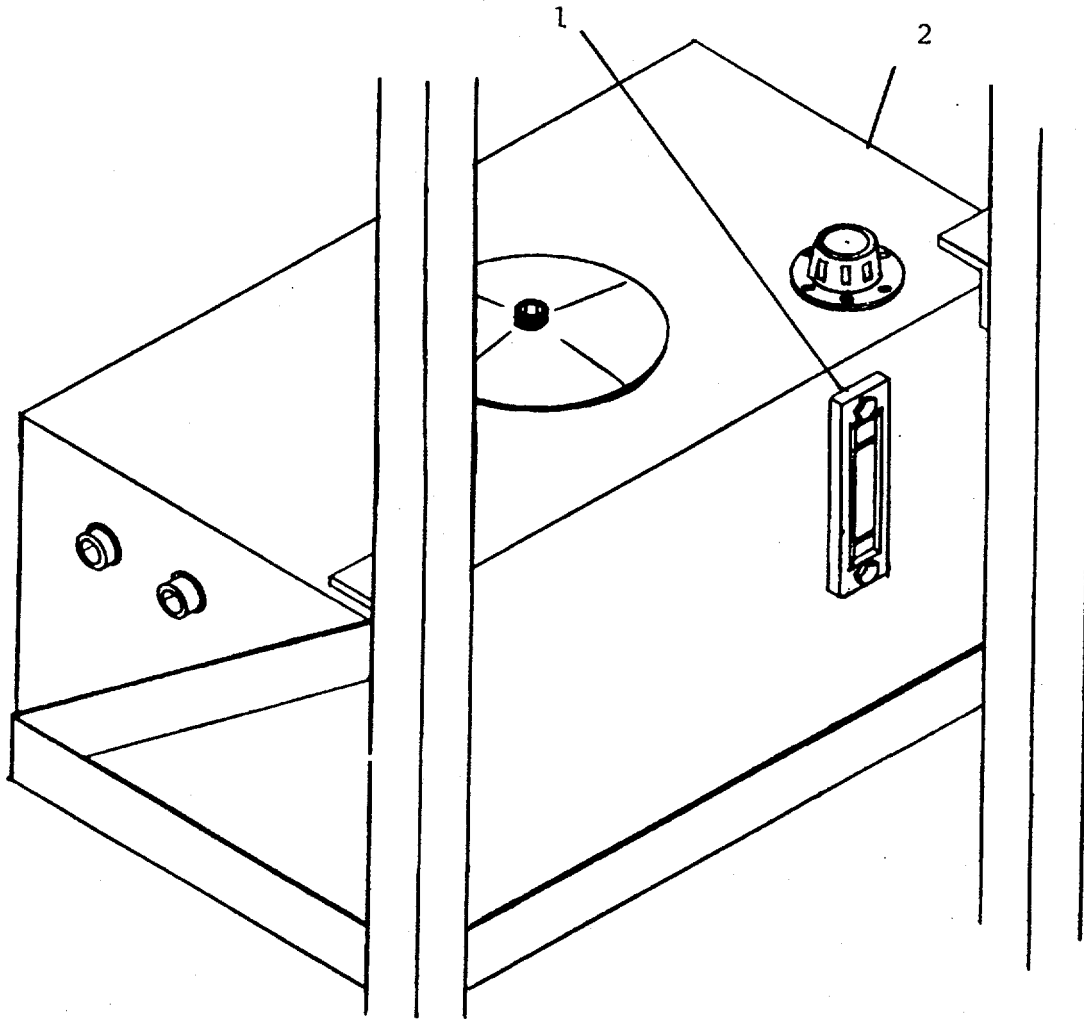

Figure 2-2. Hydraulic Oil Level Gauge.
- h.** The steering gauge (8) monitors pressure in the hydraulic steering system.
- i.** The direction indicator (7) locates the relative location of the propeller (direction of thrust).
- j.** The propulsion gauge (4) monitors hydraulic pressure of the main pump used for thrust.
- k.** The charge gauge (6) registers pressure of the booster pump.
- m.** The forward-reverse direction valve lever (15) controls direction of thrust by reversing propeller direction from clockwise to counterclockwise. This lever also proportionally controls the magnitude of thrust.
- n.** The lift-tilt valve (11) located under the control panel is used to tilt the outdrive out of the water.
- o.** The steering wheel (14) controls the outdrive slewing feature steering the vessel to port or starboard.
- p.** The 15 amp fuses (19) protect the instrumentation on the control panel.
- q.** The light switch (1) turns the light on or off on the control panel.
- r.** The hour meter (3) registers the total number of hours the engine has been run.
2-2. HYDRAULIC OIL LEVEL GAUGE (Figure 2-2). The oil level gauge (1) is located on the side of the reservoir (2) and is used to monitor the amount of oil available for the hydraulic system.